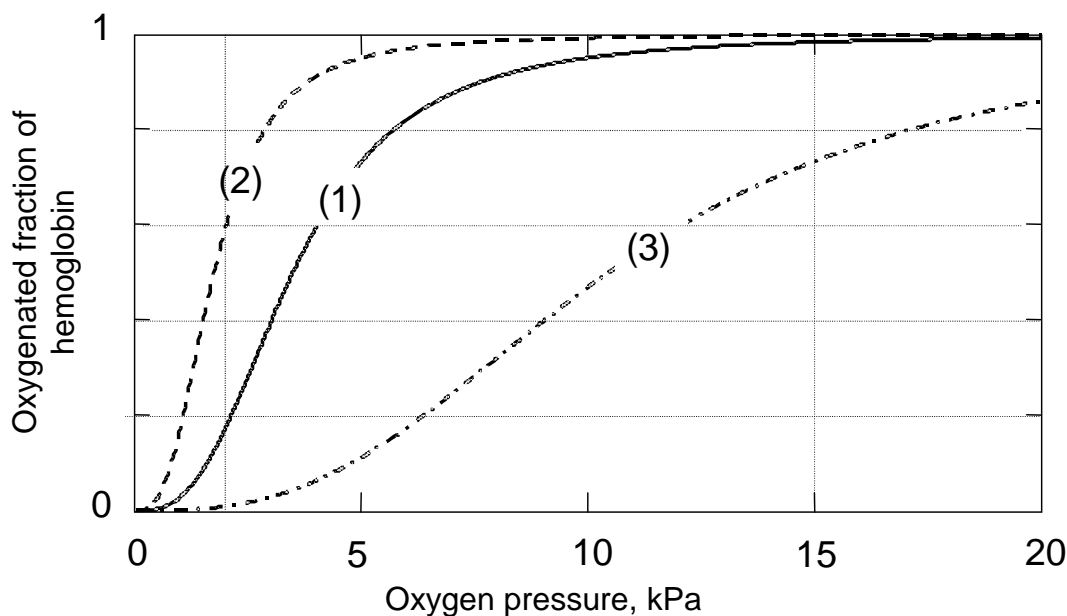

Figure 1
Each Hb molecule can take up four molecules of O2. Blood in contact with O2 absorbs a fraction of this amount, depending on the oxygen pressure, as shown in Figure 1 (curve 1). Also shown are the curves (2) and (3) for blood with two kinds of deficient Hb. These occur in patients with certain hereditary diseases.
- 1.2** Estimate from Figure 1 (to 2 significant figures) how many moles of  $\text{O}_2$  are deposited in muscle tissue when one mole of Hb travels from the lungs to the muscles and back again for the three different types of Hb.